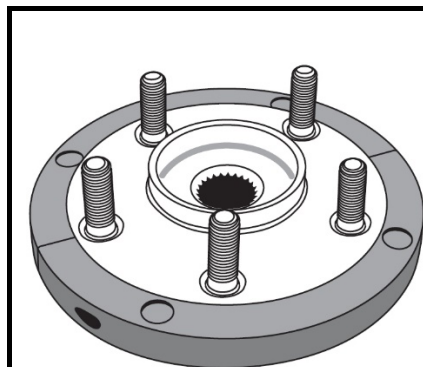

Fig.2
- Refer to Fig 2: Assemble insertion mounting shells onto new bearing / flange and secure with set screws (10).